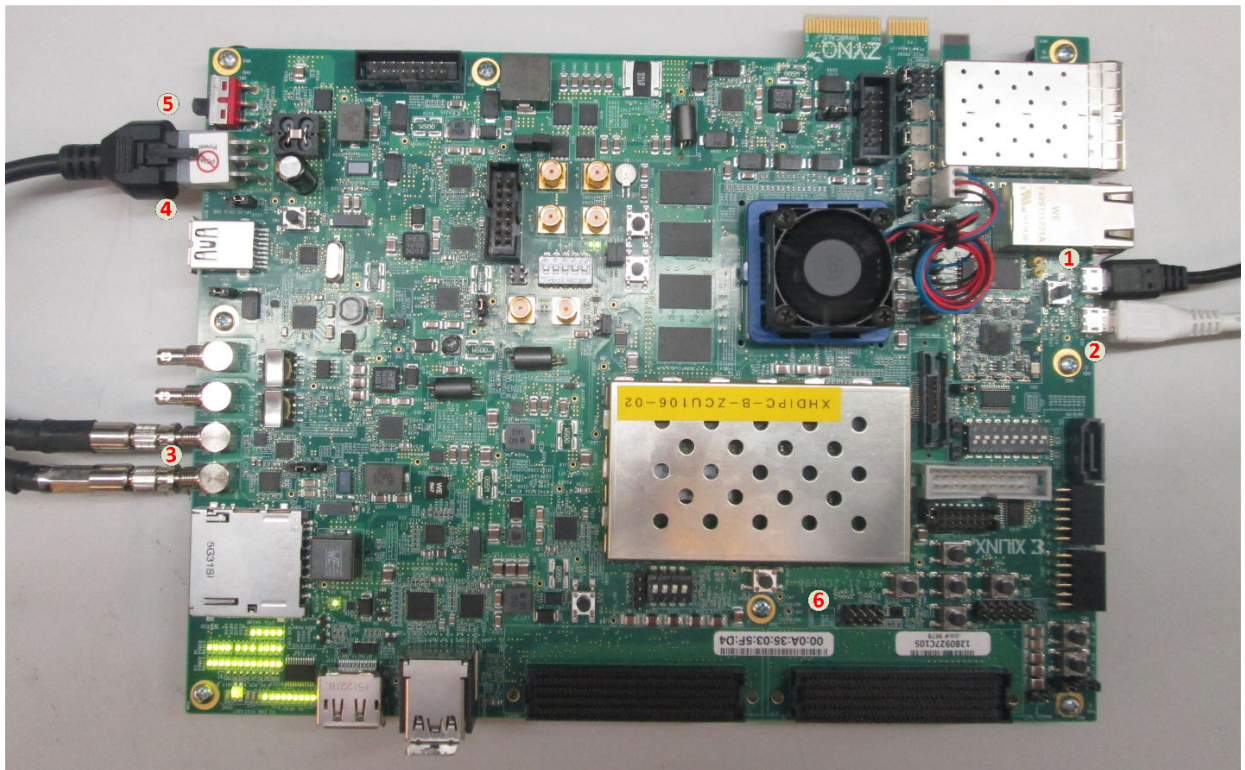

Figure 5-12: ZCU106 Board Setup
**Note:** In these instructions, the numbers in parentheses correspond to the callout numbers in Figure 5-12.
1. Connect a USB cable from the host PC to the USB JTAG port (1). Ensure the appropriate device drivers are installed.
2. Connect a second USB cable from the host PC to the USB UART port (2). Ensure that the USB UART drivers described in Hardware have been installed.
3. Connect the SDI\_OUT link of ZCU106 (3) to the SDI sink device.
4. Connect the ZCU106 board to a power supply slot (4).
5. Switch on the ZCU106 board (5).
6. Make sure that the HW-ZCU106 board revision (6) is Rev C.